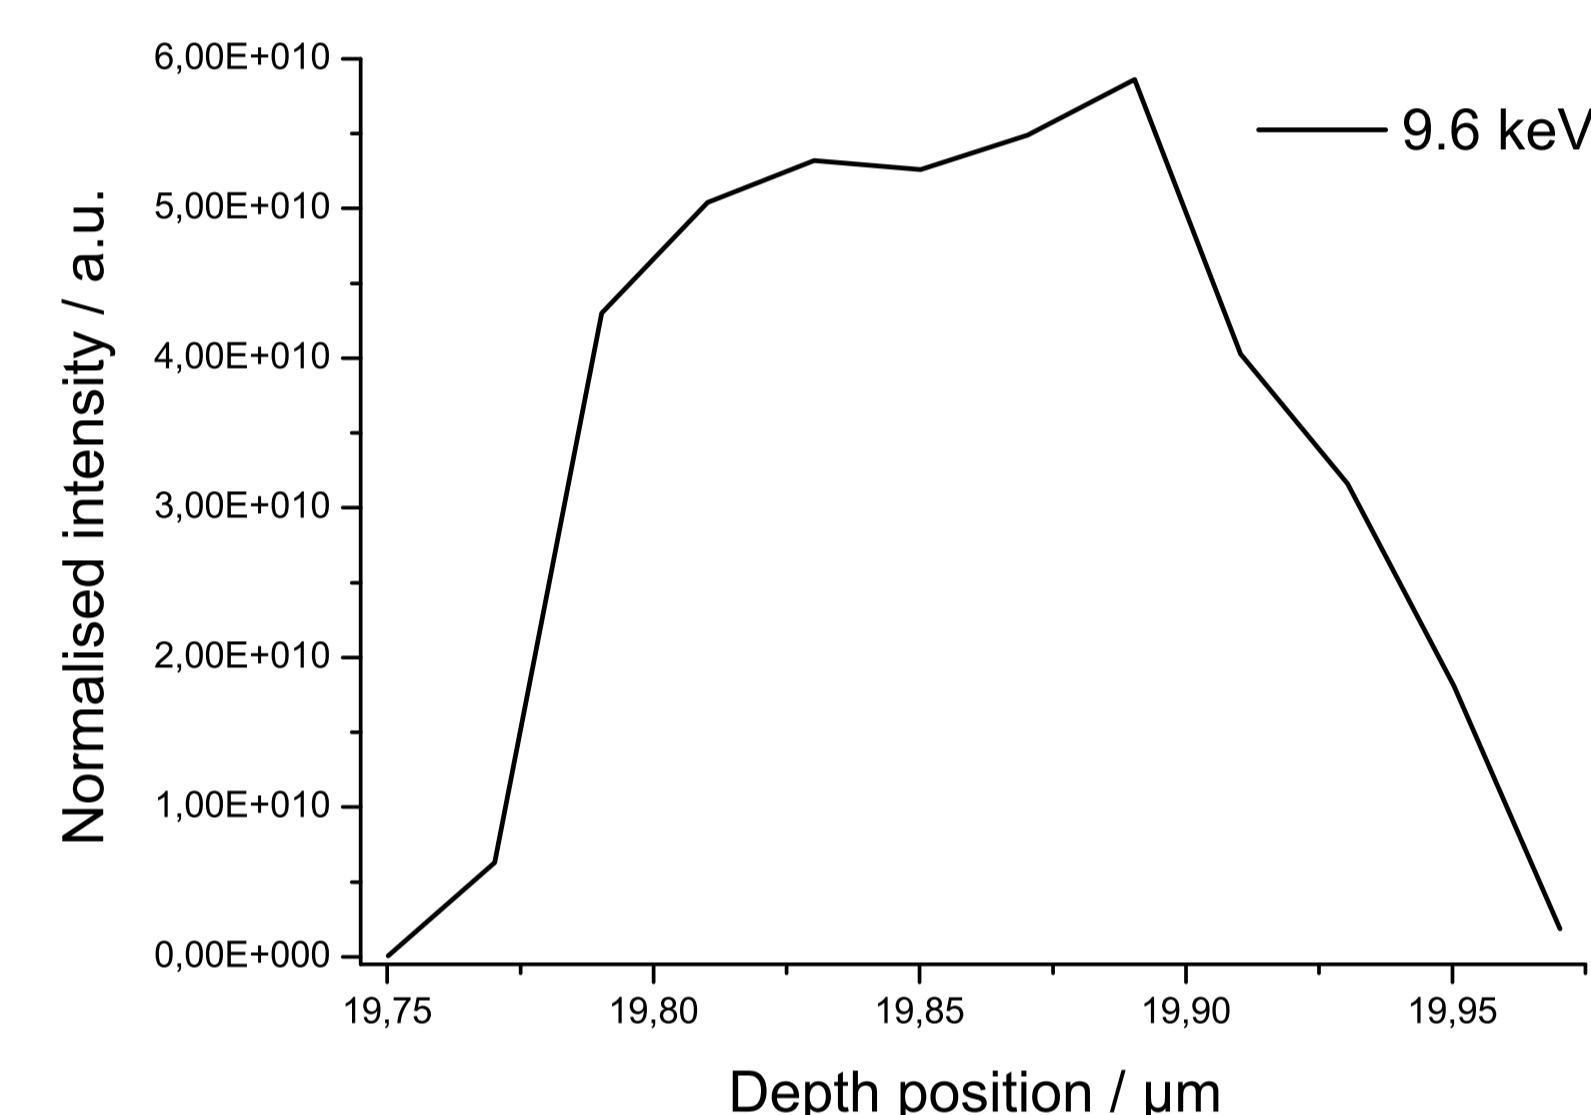

Figure 3: Rough depth scan of the sample at 9.6 keV
3D Micro-XANES scans enable **the uncovering of the topology** of samples with the same concentration of the element of interest in different layers but in a different chemical state of bonding (sample: **Figure 2**; topology: **Figure 6**). In that case 3D Micro-XRF scans can not uncover different layers (**Figure 3**).
- no layers detectable with 3D Micro-XRF at 9.6 keV \rightarrow **Figure 3**